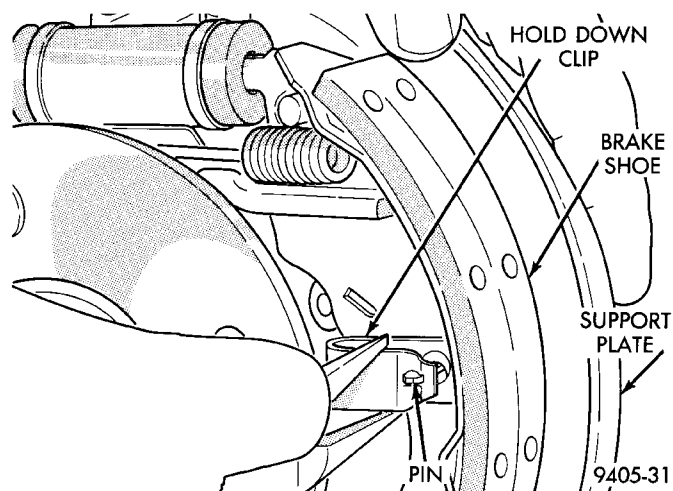

Fig. 83 Brake Shoe Hold Down Clips And Pins
(7) Remove hold down clips and pins attaching the leading and trailing brake shoes to the brake support plate (Fig. 83).
(6) Install both brake shoe, to brake support plate, hold down pins and clips (Fig. 83).